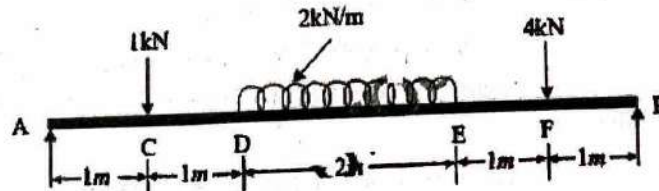

figure 2 / चित्र 2
- Q4 Draw the shear force and bending moment diagrams for a beam shown below figure 2. Clearly mark the position of the maximum bending moment and determine its value. (15)